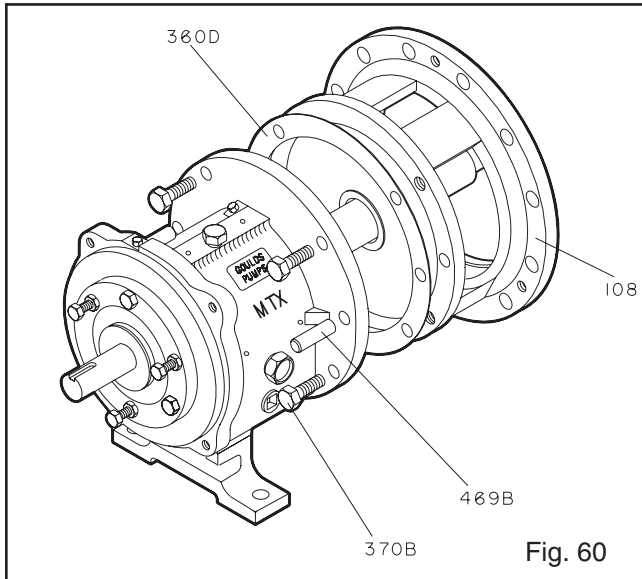

Fig. 60
2. Remove frame adapter (108) (Fig. 60).